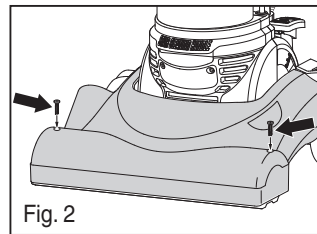

Fig. 2
- 2) Remove 2 screws from the front side of brush roll cover (Fig. 2).
- 7) Replace brush roll cover and 2 screws (Fig. 2).
- 2) To check base hose, remove 2 screws and brush roll cover. Use finger to clear blockage (Fig. 2).